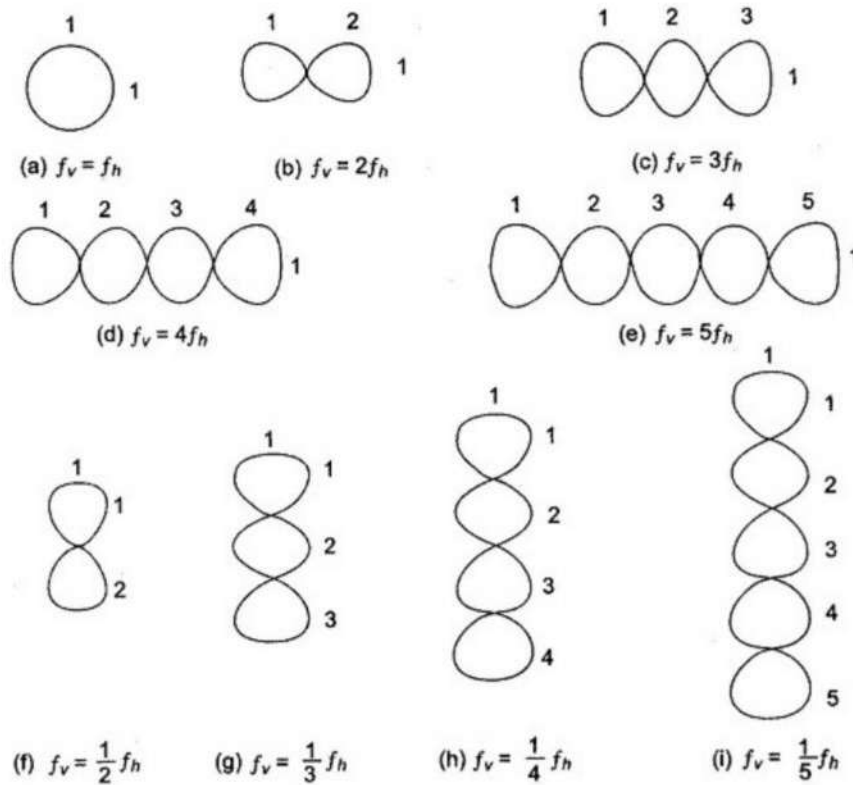

Figure 7: Lissajous figure for different frequencies f_v and f_h
The frequency f_h can be adjusted to a suitable value so that the Lissajous pattern is stable. Then the frequency f_v can be calculated using equation (12). The Lissajous figures for different frequencies f_v and f_h are depicted in Fig. 7